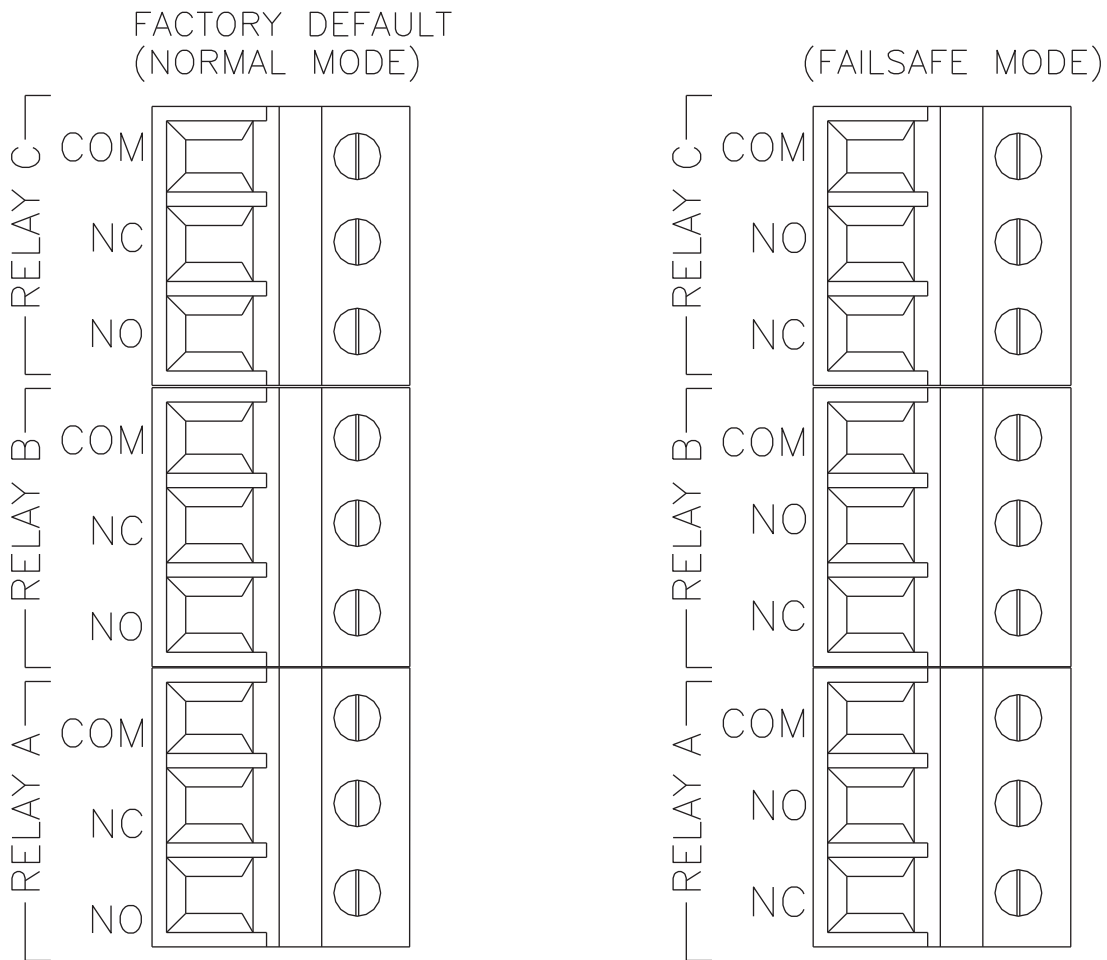

Figure 12: Relay connections
Three SPDT relays are provided on the power supply board. None of the relay contacts are powered. The user must supply the proper power to the contacts. For applications that require the same switched operating voltage as the Q46 (115 or 230V), power may be jumpered from the power input terminals at **TB7**. Relay wiring is connected at **TB4**, **TB5** and **TB6** as shown in Figure 12.
**NOTE:** The relay contact markings are shown in the *NORMAL* mode. Programming a relay for "Failsafe" operation reverses the NO and NC positions as shown in Figure 12.